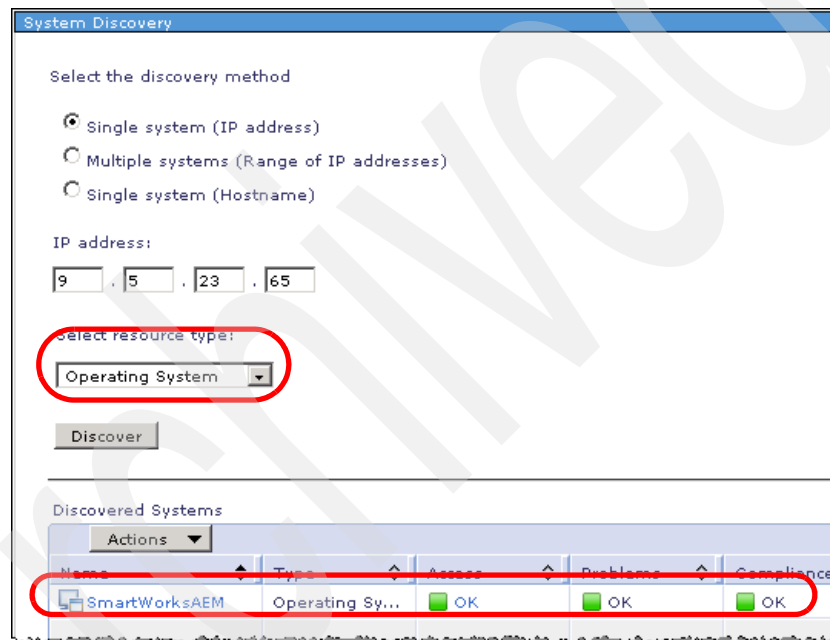

Figure 9-9 Discovering the Smart Works gateway using system discovery
1. Open Discovery Manager from the Systems Director welcome page, and click **System discovery** from the Common tasks box. The System Discovery panel opens, as shown in Figure 9-9.
The Smart Works gateway displays as a type of operating system, as shown in Figure 9-9, and credentials to access the gateway are not required for the Smart Works sensors.